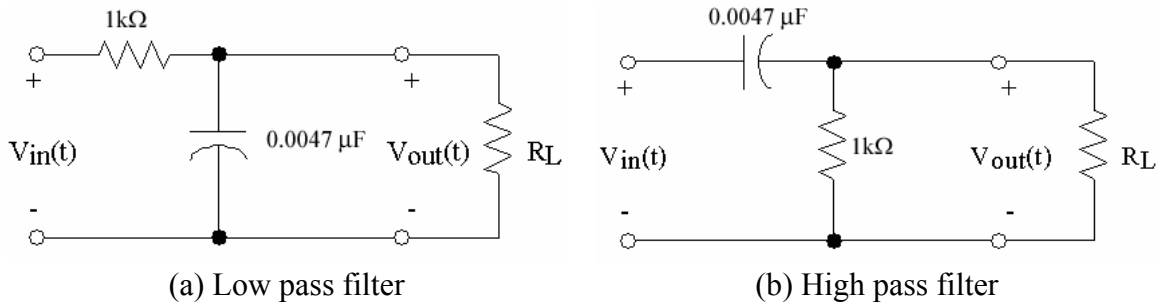
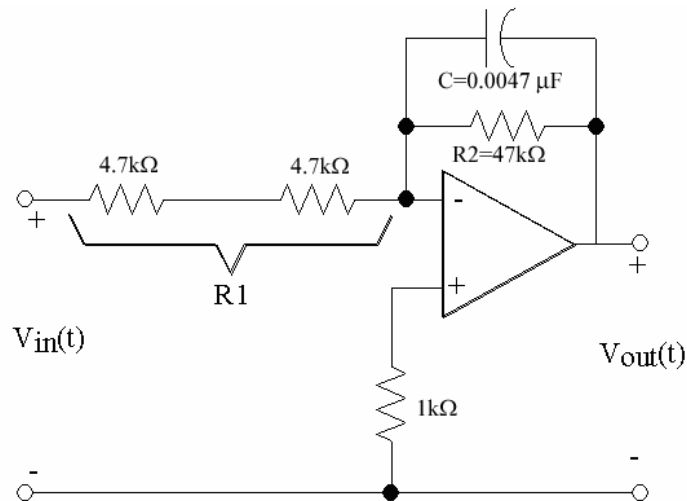
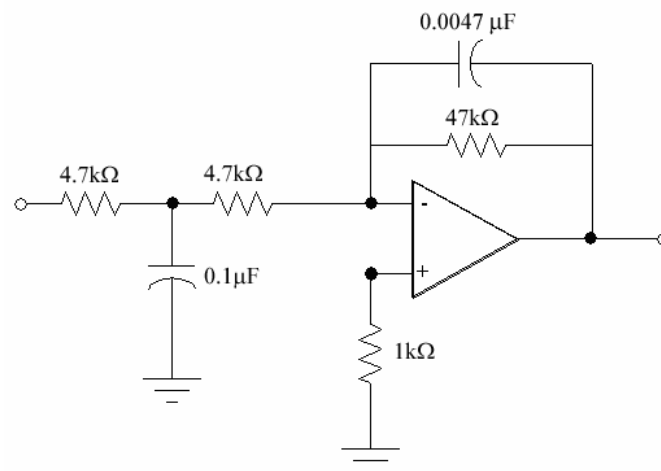

Figure 3. Passive filters.
Figure 4. First Order Active low pass filter.
Figure 5. Second order Active low pass filter.
An active filter is a circuit that includes an op amp as well as having the characteristics of a filter. Recall the circuits for passive high pass and low pass filters. Their circuit diagrams are shown in Figure 3. Note that in each case a load resistor, R_L , has been added to the circuit to make it describe a more realistic situation (there will always be a load on the output of a filter circuit). The frequency characteristics of the filter are dependent upon the load resistor, which is hardly a desirable feature. In this lab you will study a variation of the low pass filter, namely, an active low pass filter as shown in Figure 4. Active filters include an op amp as an integral part of the circuit. The effect of the op amp is two-fold. First, it serves as the source of current for the load that follows the filter, thus eliminating the effect of the load resistance on the characteristics of the filter and, second, it permits adding positive gain to the filter.
Note that in the circuit of Figure 4 there is a capacitor in the feedback loop. This circuit will behave similar to the low pass filter of Figure 3, but with a different cutoff frequency. (Note that the component values in the circuit of Figure 4 are not the same as those in Figure 3.) This is primarily because of non-ideal characteristics of the 741 op amp.
The filter circuits of Figure 3 and Figure 4 are called **first order filters** and they have similar abilities to reject frequencies past the cutoff frequency, i.e., their frequency response rolls off at the same rate. There will be occasions when you would like to have better frequency rejection than is provided by a first order filter. (Perhaps the signal that you are interested in is corrupted by lots of noise.) A filter such as that shown in Figure 5 can provide this increased attenuation of the high frequencies. Note that this filter includes a capacitor in the input network as well as in the feedback network. Such a filter is called a **second order filter**.
The transfer function, $H(j\omega)$, for the active low-pass filter circuit in Figure 4 can be mathematically shown to be
1. Build the active first order low pass filter circuit shown in Figure 4. Keep the power supply output turned off while assembling the circuit. After completing a set of measurements on this circuit you will be adding a capacitor between the two $4.7k\Omega$ resistors as shown in Figure 5, so be sure to leave adequate space.
4. Connect a 0.1 μF capacitor into the circuit as shown in Figure 5 and repeat Steps (2) and (3) above, recording your data in Data Table 4.